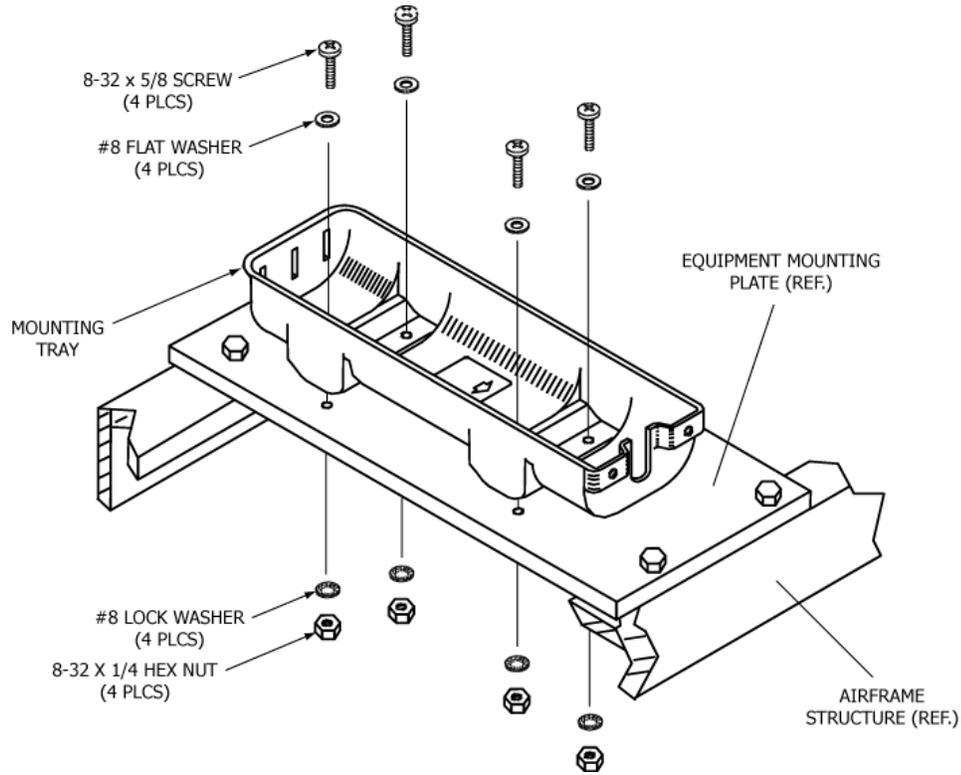

Figure 16 Typical Mounting Tray Installation
- 1) See Figure 16 Typical Mounting Tray Installation.
- 6) Install the mounting tray with the 8-32 x 5/8" SS pan head Phillips screws, flat washers, lock washers, and nuts provided in the installation kit (455-7421), as shown in Figure 16 Typical Mounting Tray Installation.